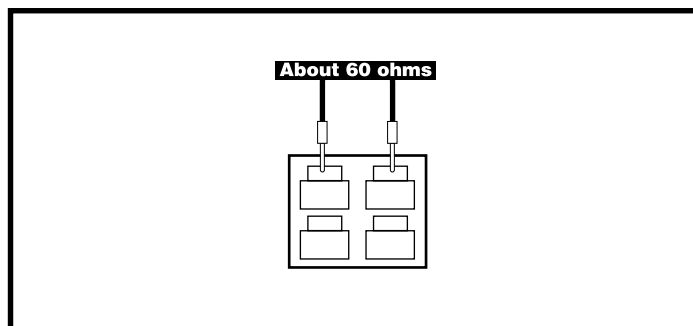

Figure 29. Connector 8a
7. Measure resistance across pin 3 (white) and pin 4 (white) on connector 8a. **See figure 29.**
- *If your multimeter indicates about 60 ohms*, then replace the left motor interface harness (13) and retest the system.